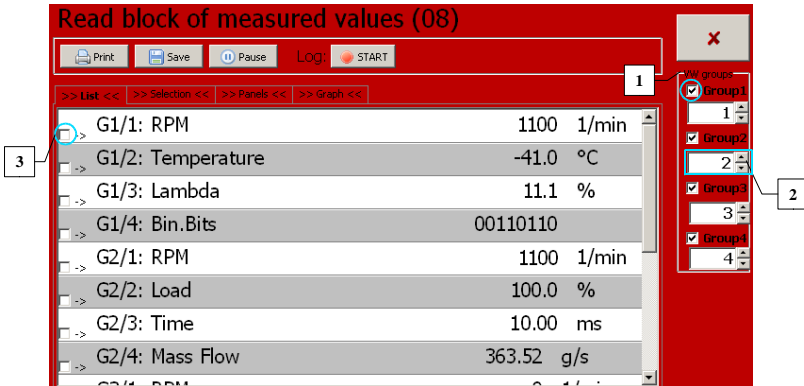

Figure 5.14
We can measure up to four independent parameter groups (G1 - G4) at once in the Read block of measured values mode (Figure 5.14), where every block contains up to four parameters, for example G1/1, G1/2 etc. Displaying the given group is activated by ticking the checkbox (1). We can change the number in the block, thus change the 4 parameters. A simple graph and a minimal, maximal and average value appears after checking a checkbox (3) next to any parameter.